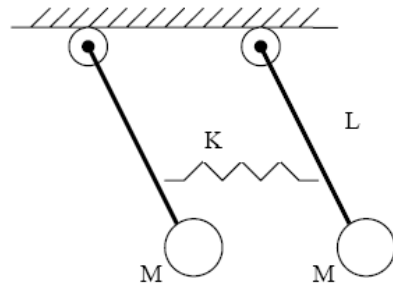

Fig.1. Double Pendulum
- (A)  $\frac{1}{1 + j\omega T_1}$                       (B)  $\frac{1}{(1 + j\omega T_1)j\omega}$
- (C)  $\frac{1}{(1 + j\omega T_1)(1 + j\omega T_2)}$                       (D)  $\frac{1}{(j\omega)^2(1 + j\omega T_1)}$
**Q.2** a. Draw the schematic diagram of a manually controlled closed loop system and explain in detail. (8)
b. Write the equations of motion for the double-pendulum system shown in Fig.1. Assume the displacement angles of the pendulums are small enough to ensure that the spring is always horizontal. The pendulum rods are assumed massless with length L, and the springs are attached  $\frac{3}{4}$  of the way down. (8)